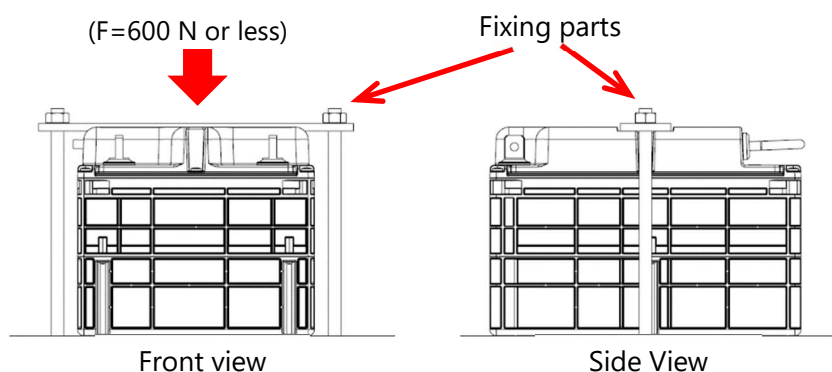

Figure 5-1 Example of Fixing Battery Pack
2. Fix the Battery Pack on its upper surface as shown in Figure 5-1 below. (Image of fixing parts is for illustration purposes.)